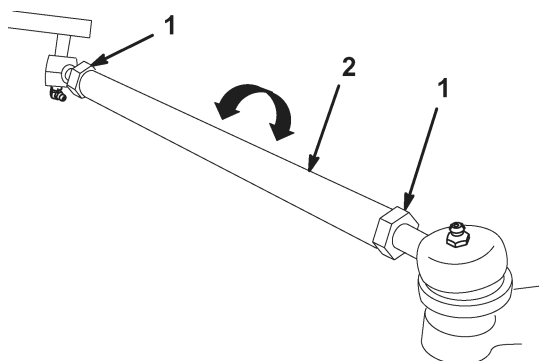

**Figure 27**
2. Measure the distance between both of the front tires at axle height (at the front and rear of the wheels) (Fig. 27). The front measurement must be equal to the rear measurement  $\pm 1/4$  in. (6.4 mm).